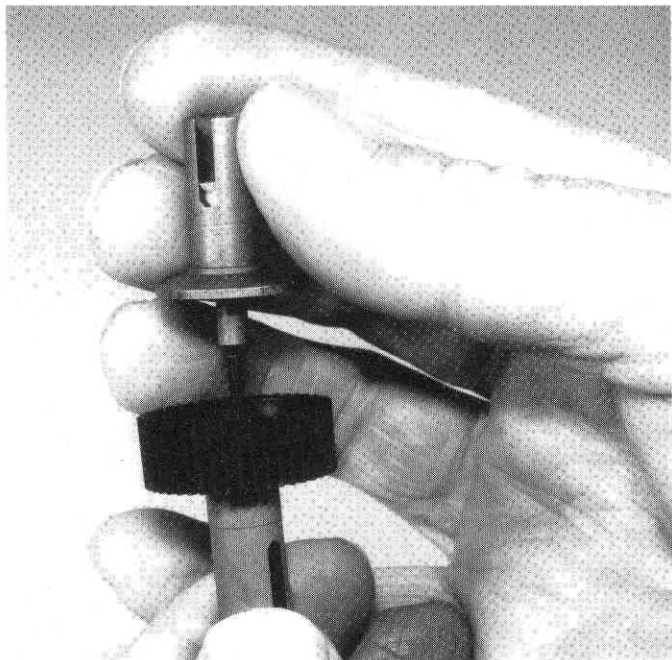

Fig. 44
□ **Figs. 44 & 45** Slip the #6578 left hand hub down onto the bolt, making sure the hub centers itself onto the drive rings. **THIS IS IMPORTANT.**